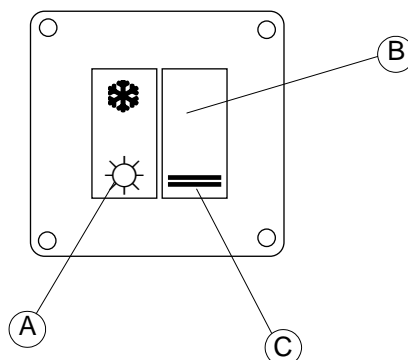

Figure 23
- 4) Press the button A summer/winter in the position winter ❄ (see figure 23)
- 7) Otherwise the flame control unit locks out the heater: the gas supply to the burner is shut off and a lock-out light C on the reset button B lights up (see figure 23).
- 8) When default described at item 7) occurs, press the reset button B.
externally, on the rear panel, under the black screw plug (accidental power supply break - see figure 23).